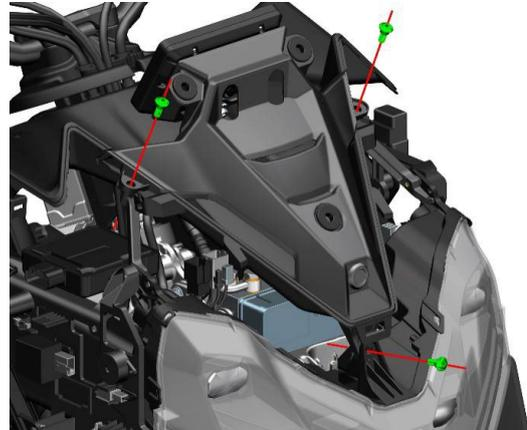

Figure 1
- a. Use a T25 Torx wrench to remove the three bolts, then disconnect the instrument wiring and retaining clips before removing the instrument bracket. (Figure 1)